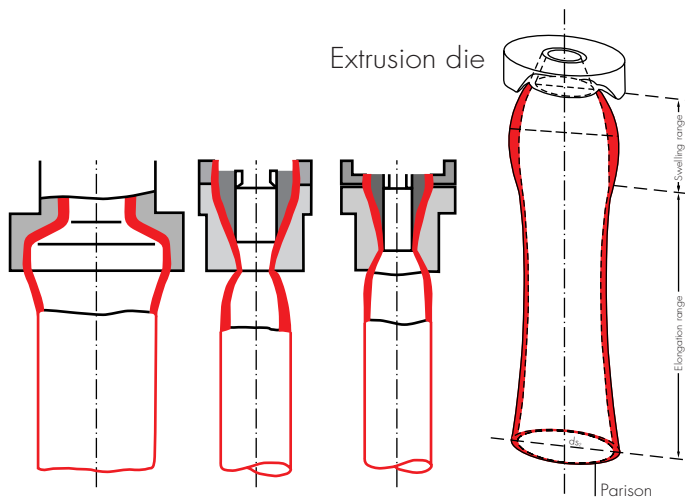

Fig. 5: Tube swell versus die design and schematic presentation of swell and elongation behaviour.
- The lower the melt temperature, the greater the swell (depending on the die geometry, see Fig. 5).